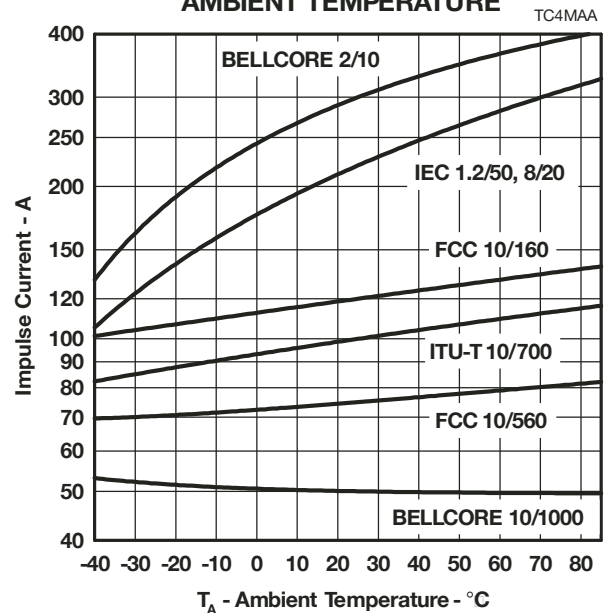

Figure 11.
4. See Applications Information and Figure 11 for current ratings at other temperatures.
For the FCC Part 68 10/560 waveform, the following values result. The minimum total circuit impedance is $800/75 = 10.7 \Omega$ and the generator's fictive impedance is $800/100 = 8 \Omega$. This gives a minimum series resistance value of $10.7 - 8 = 2.7 \Omega$. After allowing for tolerance, a $3 \Omega \pm 10\%$ resistor would be suitable. The 10/160 waveform needs a standard resistor value of 5.6Ω per conductor. These would be R1a and R1b in Figure 15 and Figure 16. FCC Part 68 allows the equipment to be non-operational after the 10/160 (conductor to ground) and 10/560 (inter-conductor) impulses. The series resistor value may be reduced to zero to pass FCC Part 68 in a non-operational mode, e.g. Figure 14. For this type of design, the series fuse must open before the TISP4xxxM3 fails. For Figure 14, the maximum fuse i^2t is $2.3 A^2s$. In some cases, the equipment will require verification over a temperature range. By using the rated waveform values from Figure 11, the appropriate series resistor value can be calculated for ambient temperatures in the range of $-40 \text{ }^\circ\text{C}$ to $85 \text{ }^\circ\text{C}$.